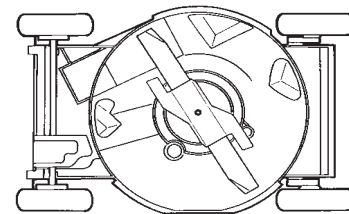

Figure 21
4. Tip the lawn mower on its **left** side (air filter up) (Fig. 21).